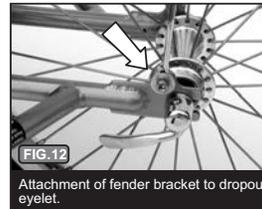

FIG. 12
**C)** Fender Attachment - The fender attaches to the trailer in three places. Begin by removing the screw and washers from the forward fender mount on the trailer frame. Attach the fender to the trailer by inserting the bolt and washer through the slot in the fender. Next place the second washer behind it (sandwiching the fender with washers) as shown in Fig. 11. Tighten the bolt securely with a 4mm Allen wrench. Next, attach the fender brackets to the left and right dropouts. Insert the bolt through the washer and then through the loop in the fender bracket as shown in Fig. 12. Align the bolt with the eyelet in the dropout and tighten securely with a 4mm Allen wrench.